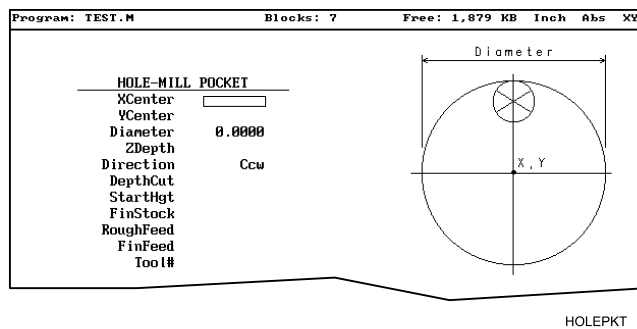

Figure 5-18, HOLE-MILL Pocket Graphic Menu
2. Highlight **Hole**, and press **ENTER** to display the **HOLE-MILL POCKET** Graphic Menu. Refer to **Figure 5-18**.